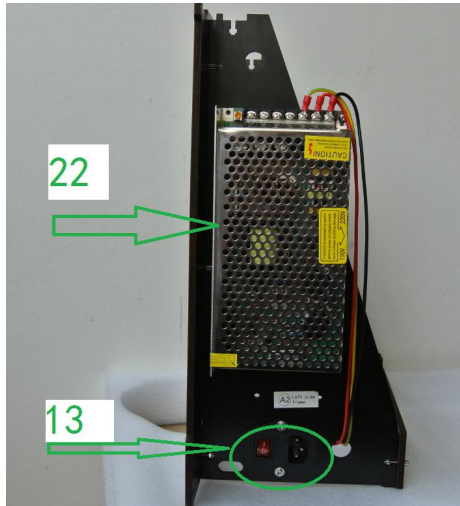
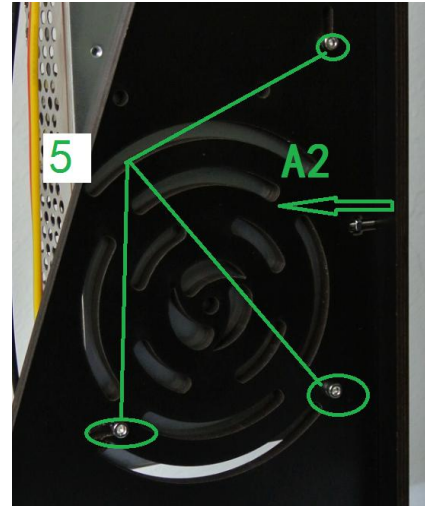
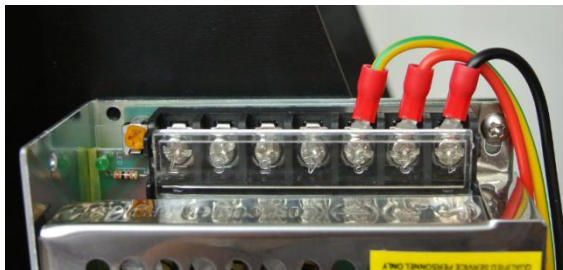
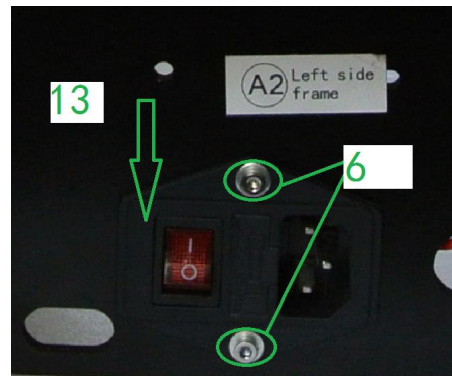

Figure 7.1 A2 Assembly
Figure 7.2 Motherboard on the Back and Tightening Screws
Figure 7.3 Connection of Power Source Socket and Motherboard Cables
Figure 7.4 Power Source Socket and Tightening Screw
The installation of A2 assembly is shown in Figure 7.1. As instructed in figure 7.2, fix the motherboard ②② onto the A2 board on the right side of main framework with 3 pieces of ⑤ screw. Then follow figure 7.4 to fix power source socket onto A2 board with screw ⑥, nut ④ and washer ③. The connected power source socket and motherboard cables are shown in figure 7.3.